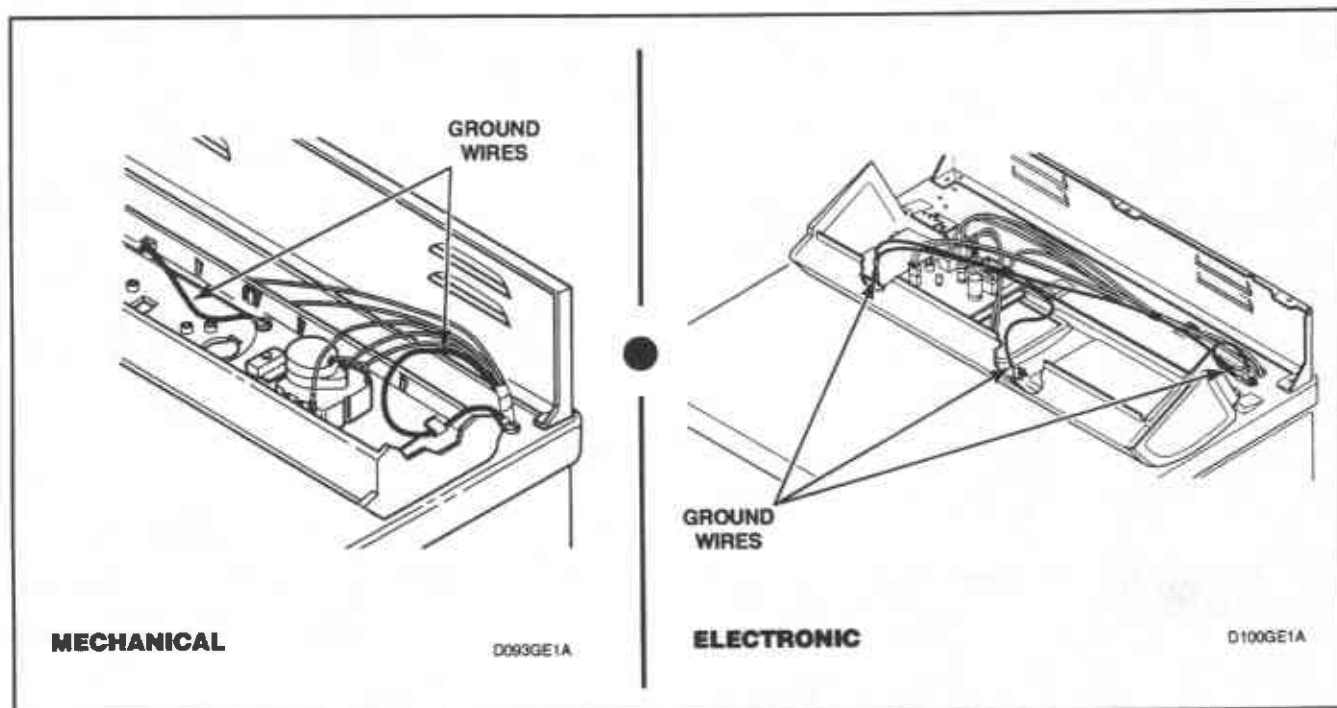

Figure 4
4. FROM REAR BULKHEAD TO TIMER MOUNTING BRACKET TO DRYER CABINET TOP. TIMER MOUNTING BRACKET TO GRAPHIC PANEL (Mechanical Timer Model Dryers — *Figure 4*).
FROM REAR BULKHEAD TO DRYER CABINET TOP TO ELECTRONIC CONTROL TO GRAPHICS PANEL (Electronic Control Model Dryers — *Figure 4*).